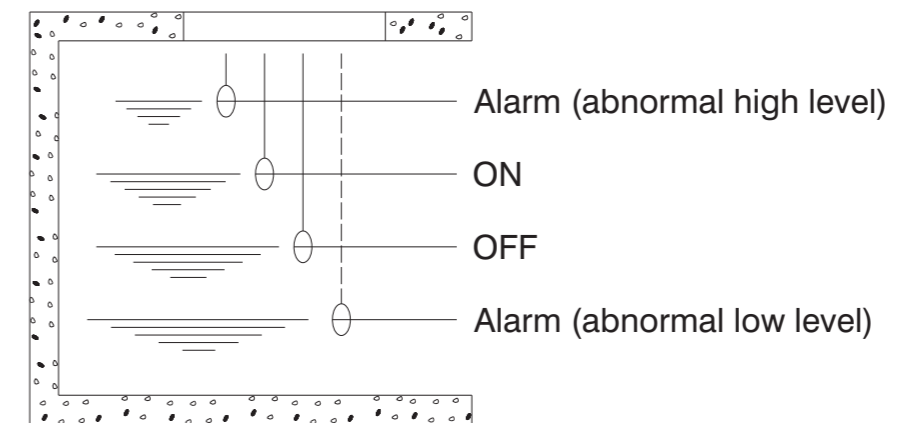

Fig. 16 Single Unit Operation
4.4 Water Level Switch Cable Connection (Fig. 16 and 17)
Figs. 16 and 17 illustrate typical float switch applications for water level control. Three (or four) float switches are required for single unit operation, whereas four (or five) are necessary for two-unit alternating operation.